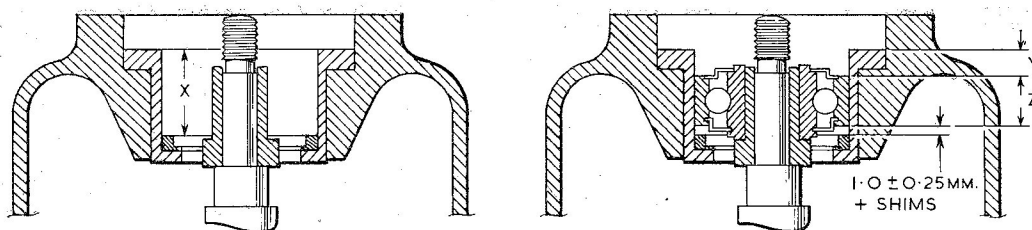

Fig. 10. Rotor shaft end loading
(4) Carefully pass the rotor assembly through the bore of the stator assembly, locating the dowel (3) in the rim of the motor case in the location hole in the lower motor case (2). Bring the three stator leads out through the slot in the lower motor case and secure this latter component (2) to the motor case (18) with the eight countersunk head screws (19). Tighten securely. The three leads should be identified by numbered rubber sleeves (20).
(5) Supporting the motor unit vertically in a suitable holding block, drop the bearing ring (5) into position in the motor bearing housing (8). Using a depth micrometer check the distance between the flanged surface of the bearing housing and the top face of the bearing ring (5) (dim. X fig. 10).
(6) Fit the selected bearing (12) (para. 22(1)) over the rotor shaft and press into the housing so that it contacts the shoulder of the rotor shaft. With a depth micrometer check the distance between the flanged surface of the bearing housing and the outer race of the housing (12) (dim. Y fig. 10).
(7) The gap between the bearing ring (5) and the bearing is now given by subtracting dim. Y plus the thickness of the outer race of the bearing (dim. Z) from dim. X. This dimension less $1.0 \pm 0.25\text{mm}$, allowance for the compressed pre-load washer (16) will give the thickness of adjusting washers (4) required to correctly pre-load the washer. If the gap for the pre-load washer works out at less than 1.0mm, it will be necessary to machine the front face of the motor case and stator assembly at right angles to the stator bore to obtain the necessary pre-load conditions.
(8) Withdraw the bearing (12) and bearing ring (5) from the motor bearing housing. Insert the pre-load washer (16) followed by adjusting washers (4) of the total thickness previously calculated (sub-para. 7). Re-position the bearing ring (5) with the counter-bored face uppermost and replace the selected bearing (12).
(9) Secure the inner race of the bearing with a $\frac{5}{16}$ in. B.S.F. plain washer (10) and the self-locking nut (9). Securely tighten.
(10) Check that the rotor rotates without any indication of interference.